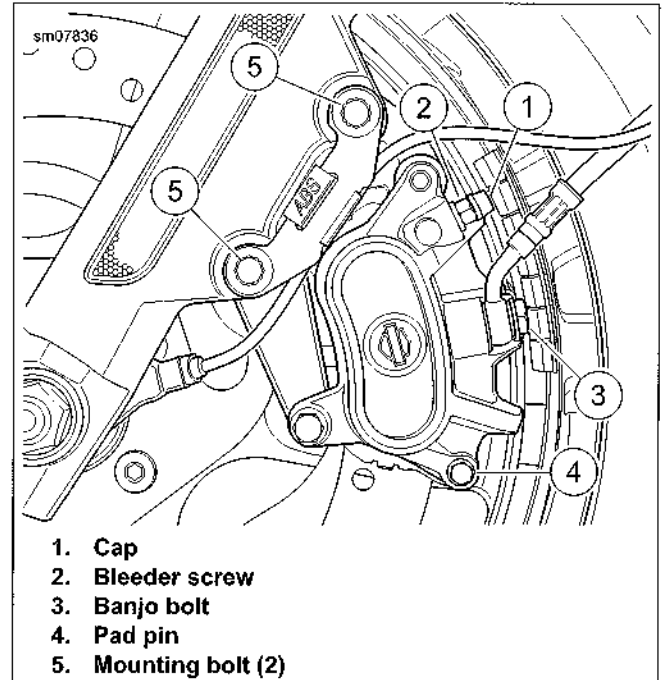

Figure 2-58. Front Brake Caliper
- a. See Figure 2-58. Remove bleeder screw cap (1) from bleeder screw (2).
2. Remove banjo bolt (3) and sealing washers to detach front brake line from caliper. Discard sealing washers.
3. Loosen, but do not remove, brake pad pin (4).
4. Remove both mounting bolts (5) (12 pt/10 mm socket).